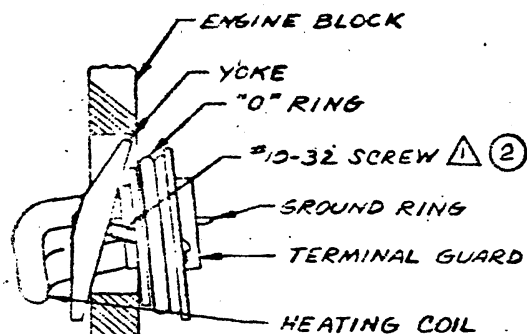

FIG. 1
5. To install into engine block, merely insert the hairpin end of the heating coil into the opening and one end of the yoke into the inside face of the block. In this displaced position it allows the other end of the yoke to be pushed beyond the inside face of the engine block. (Refer to Fig. 1) To insert support into block merely center the axis of the heater and the axis of the core hole and push support in as far as it will go.